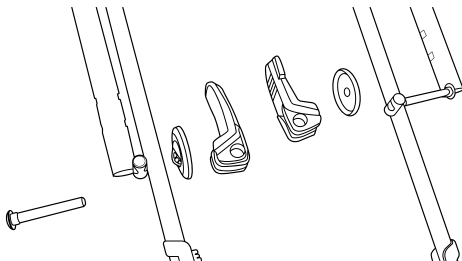

Fig. 2
- c. Fit the upper handle onto the lower handle. Insert the provided bolts into the aligned holes on the handles and secure the knobs onto the bolts (Fig. 2).